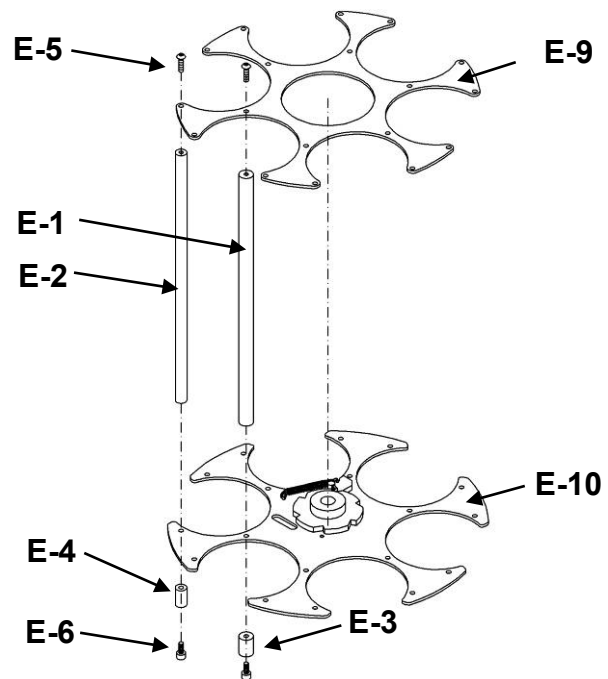

Figure 6 – Assembling the Magazine
4. The magazine is assembled following the picture shown in figure 6.